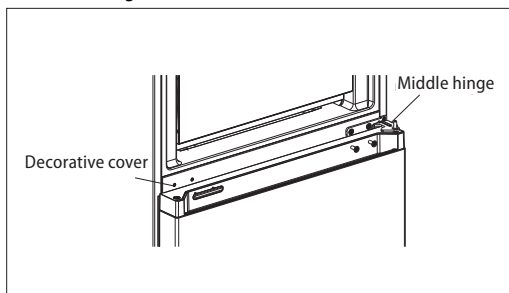

Fig. 2
4. Remove the blind plugs and the middle hinge of the refrigerator (Fig. 2). Remove the freezer door and place it in a safe place.